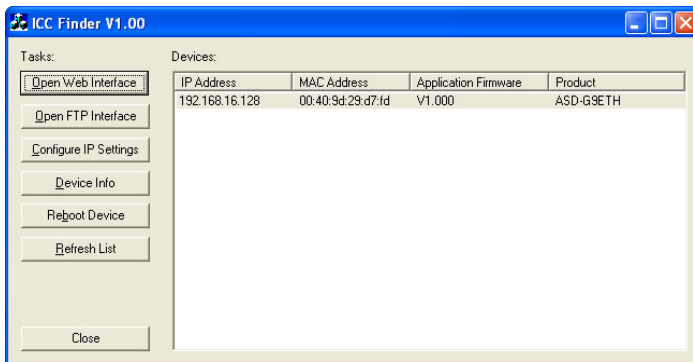

Figure 5: ICC Finder Discovery Utility
3. The discovery utility scans the network for ICC devices and then lists each device's **IP Address**, **MAC Address**, **Firmware Version** and **Product ID**. Identify your device by its MAC address (printed on a label on the top of the Ethernet network jack). Refer to Figure 5. If the ICC Finder does not discover any ICC devices, refer to chapter 8.
The “ICC Finder” utility is a simple Windows PC program (just a single .exe file, no installations, DLL’s etc.), which when executed discovers all ICC communication interfaces on the current Ethernet subnet, regardless of whether or not their network parameters are currently compatible with the subnet upon which they reside. Refer to Figure 5 on page 19.